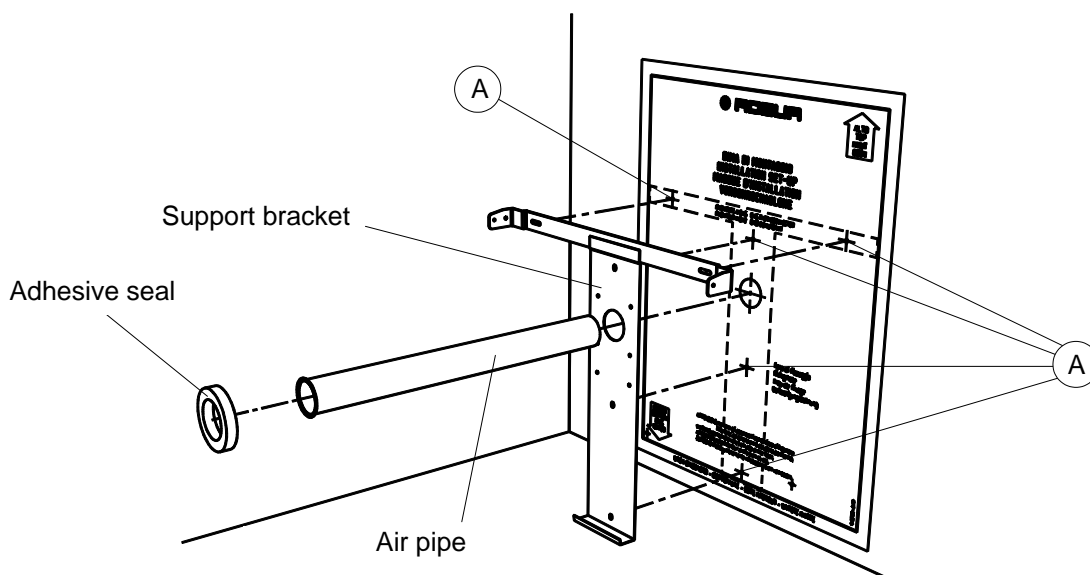

Figure 6 – Positioning the support bracket and drilling the holes for models 41, 42, 51 and 52
4. Drill a hole (\varnothing 50 mm) for the larger diameter pipe and holes "A" holes (see Figure 6) for the support bracket fixings (6 mm holes for the wall plugs provided). The 50 mm \varnothing hole for the pipe must be drilled using a suitable core drill or by drilling a series of small diameter holes around the perimeter of the large hole.
7. Position the support bracket and the 49 mm Ø air intake pipe, making sure that the pipe flange seats against the support bracket (see Figure 6).
8. Fix the support bracket with the screws and position the round adhesive seal around the hole in the bracket (see Figure 6).